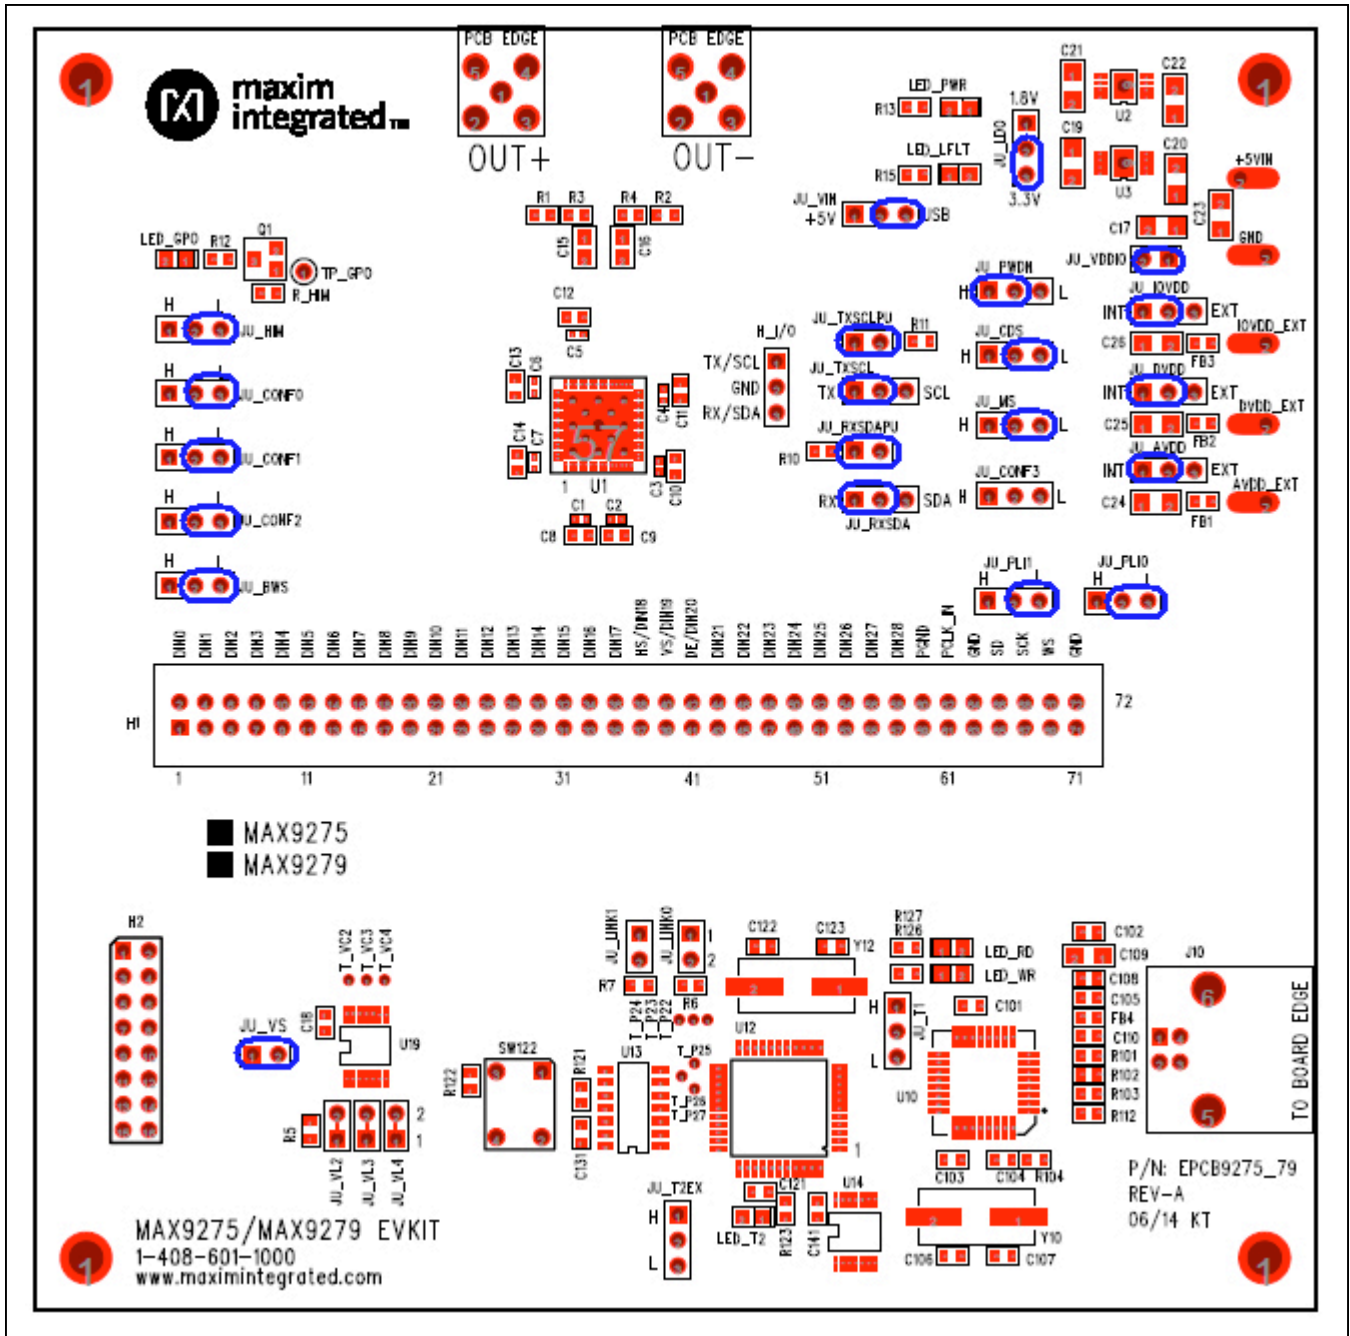
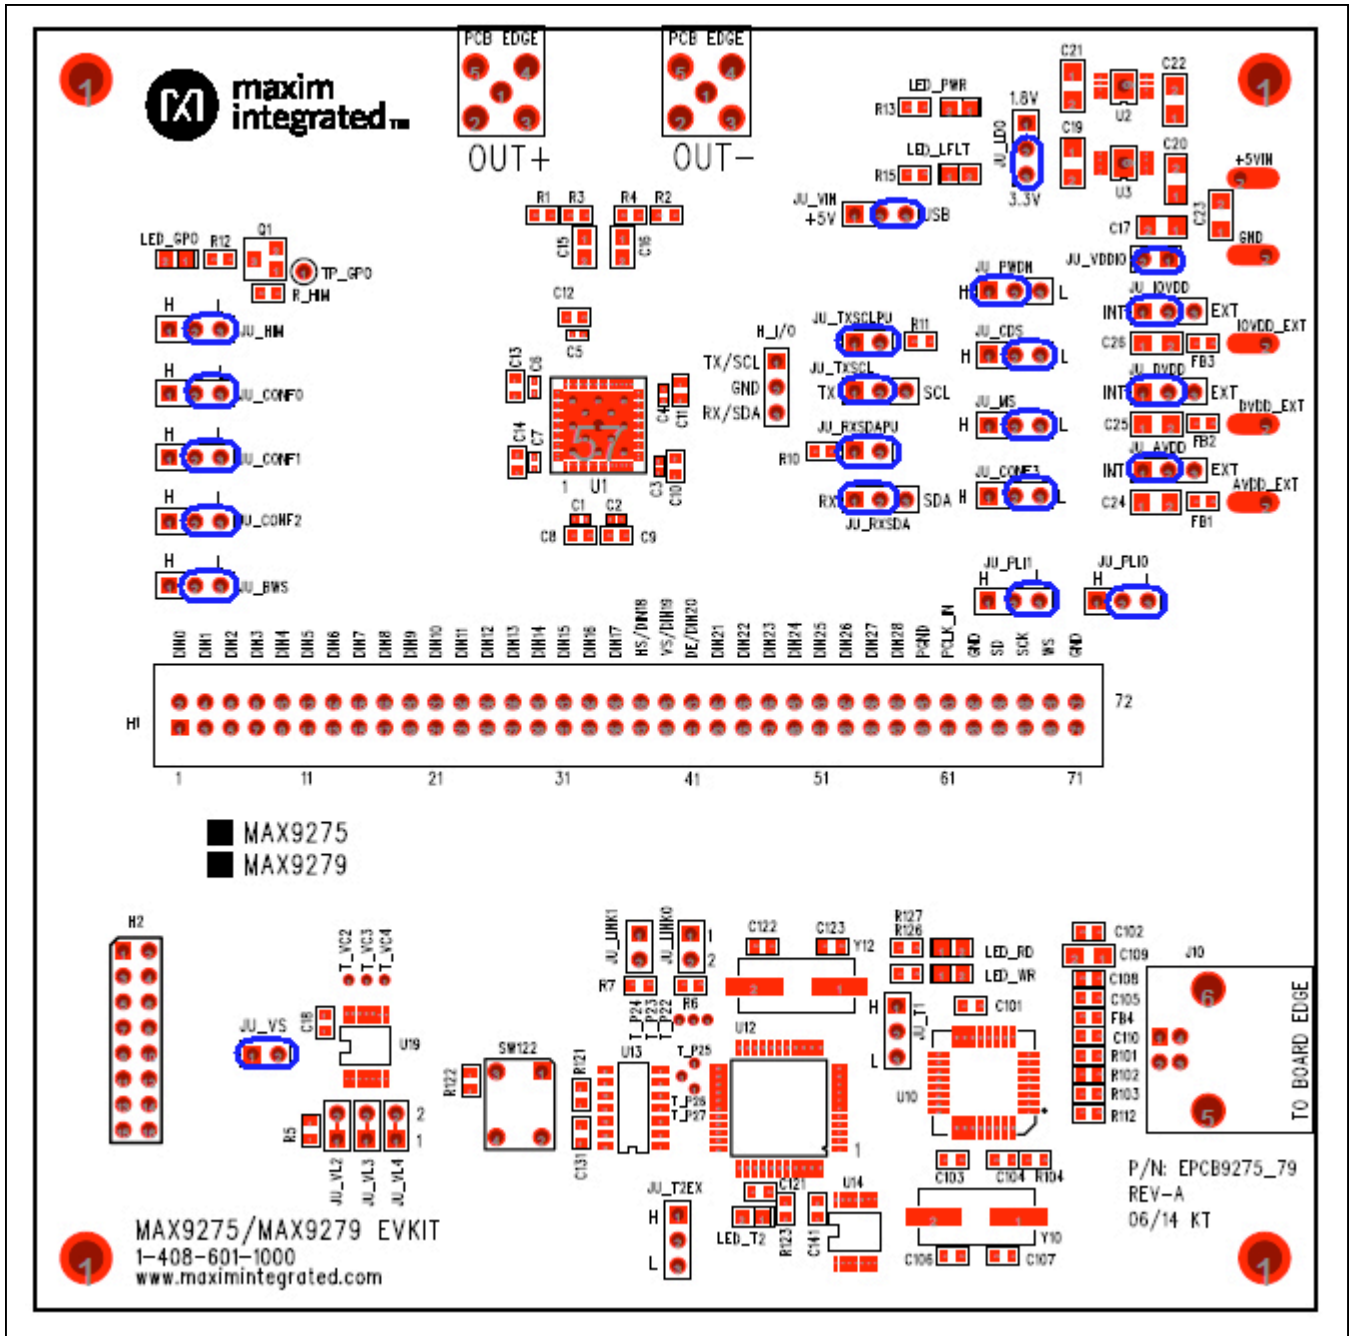
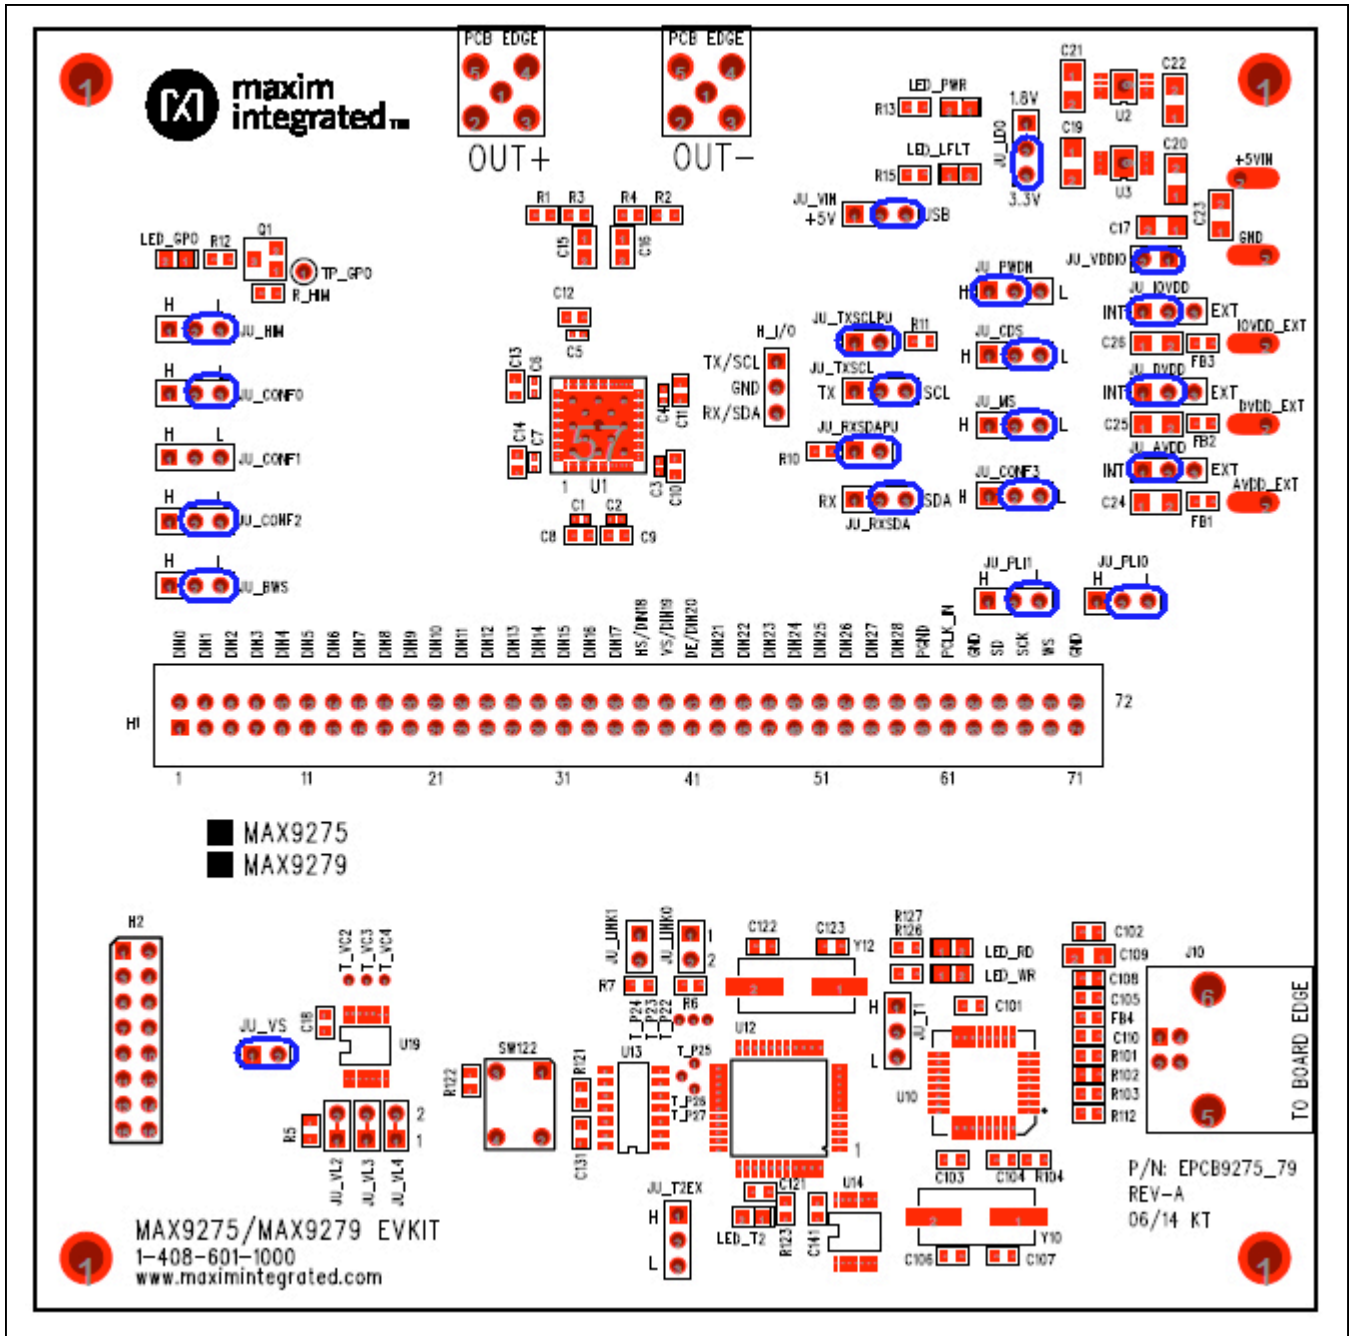
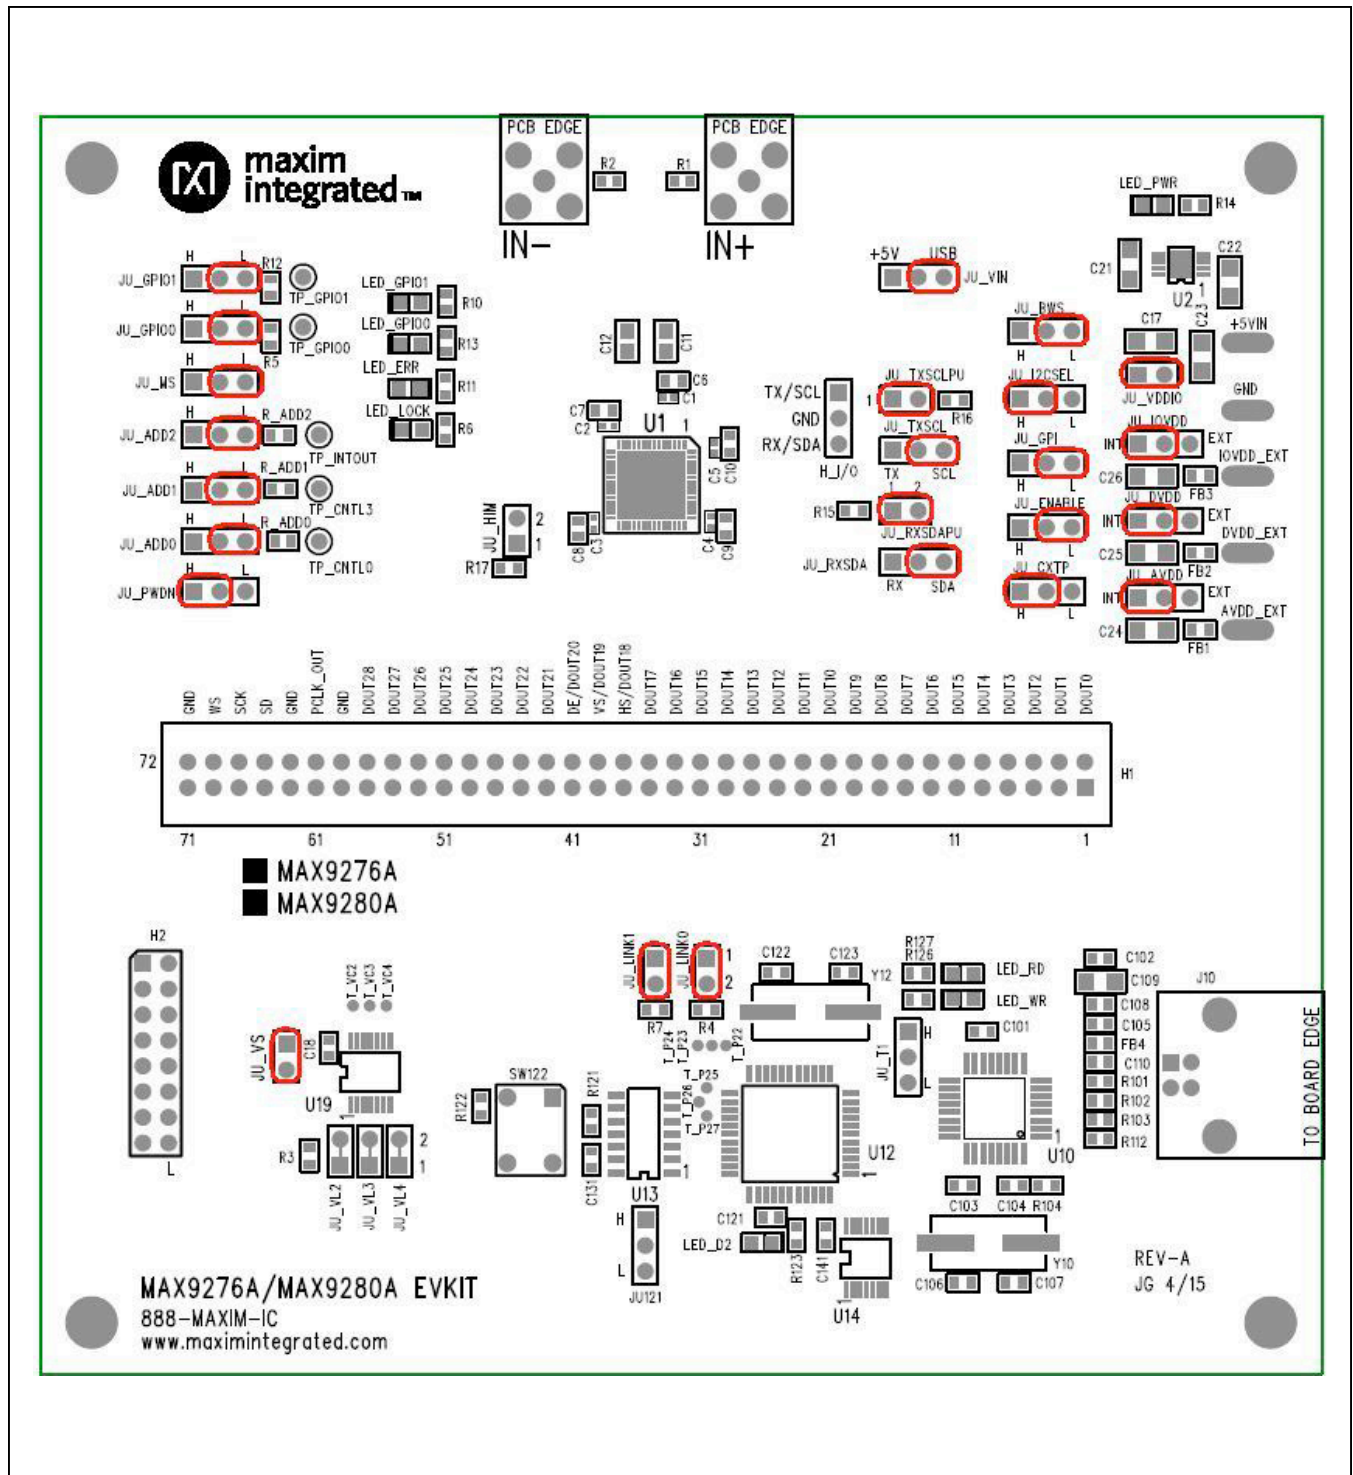

Figure 9. Serializer Jumper Settings for Coax/UART Mode
Figure 10. Serializer Jumper Settings for STP/UART Mode
Figure 11. Serializer Jumper Settings for STP/I2C Mode
Figure 12. Initial Deserializer Jumper Settings for Coax/I2C Mode
- 2) Verify that all serializer jumpers are in their default positions, as shown in Table 1 and Figure 8, and deserializer jumpers are set, as shown in Figure 12.
The **Identify Devices** button causes the GUI to scan the system and search for slave addresses selectable by the SerDes input address pins. Upon successful communication, identified **Device ID** and corresponding jumper lists are displayed on the **MAX9279 Jumper Selection** and **MAX9280/80A Jumper Selection** group boxes. The user can also manually select a device from the **Device ID** drop-down list and enter a slave address in the **Device Address** edit box. It is good practice to utilize the **Identify Devices** function and verify communication with the DUTs before attempting to **Connect**. Figure 8, Figure 9, Figure 10, Figure 11, and Figure 12 show jumper settings on the MAX9275/MAX9279 PCB for coax or STP cable and UART or I²C communication with a USB controller connected to the serializer board. Refer to the MAX9275/MAX9279 IC data sheet for detailed configuration information. See Table 1 for jumper functions and settings.